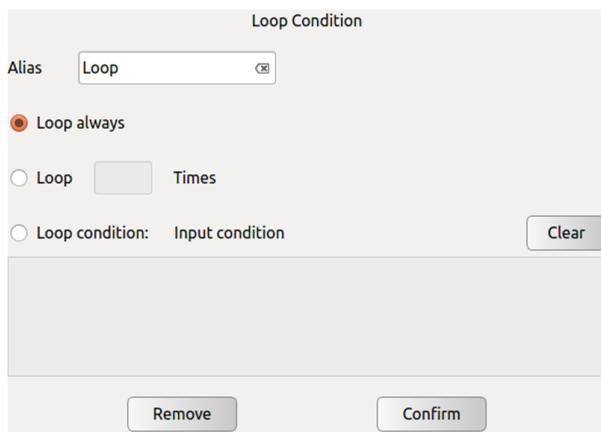

Figure 11.8 Loop
- Choose **【Move】** node, **Condition Tabs** will automatic pop-up, as shown in Figure 11.8. Users can configure the proceeding status of the **Move** command.